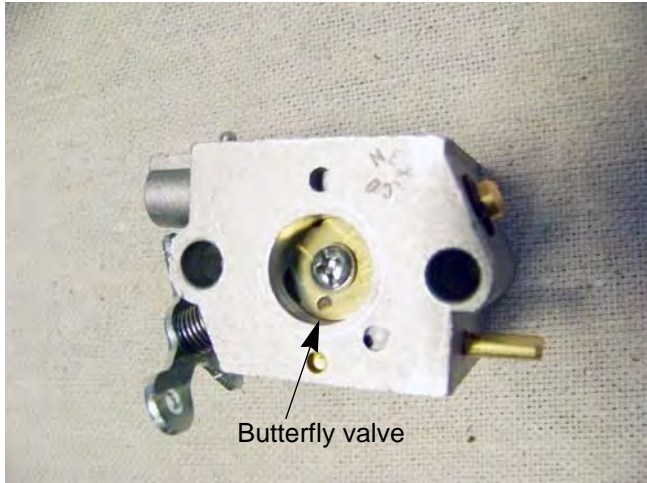

Figure 5.21
11. Remove the throttle plate using a #2 phillips screwdriver. See Figure 5.21.